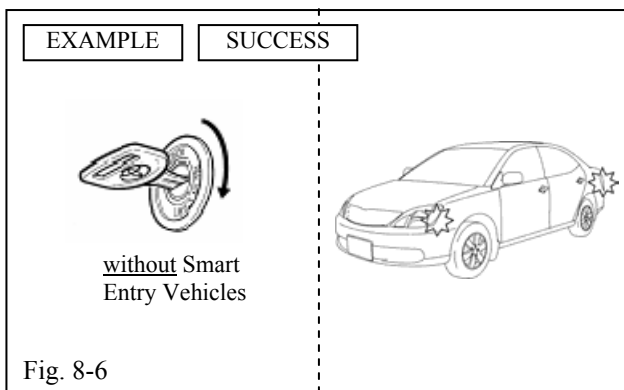

Fig. 8-6
- (i) Start the engine; after counting 10 seconds stop the engine. The hazard lights flash once. Registration completed. (Fig. 8-6)